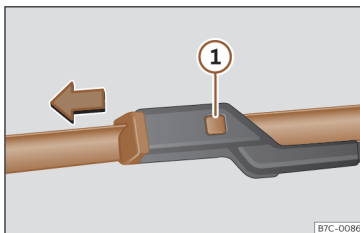

Fig. 173 Changing the windscreen wiper blades
- Press and hold release button >>> Fig. 173 ① and pull gently on the wiper blade in the direction of the arrow.